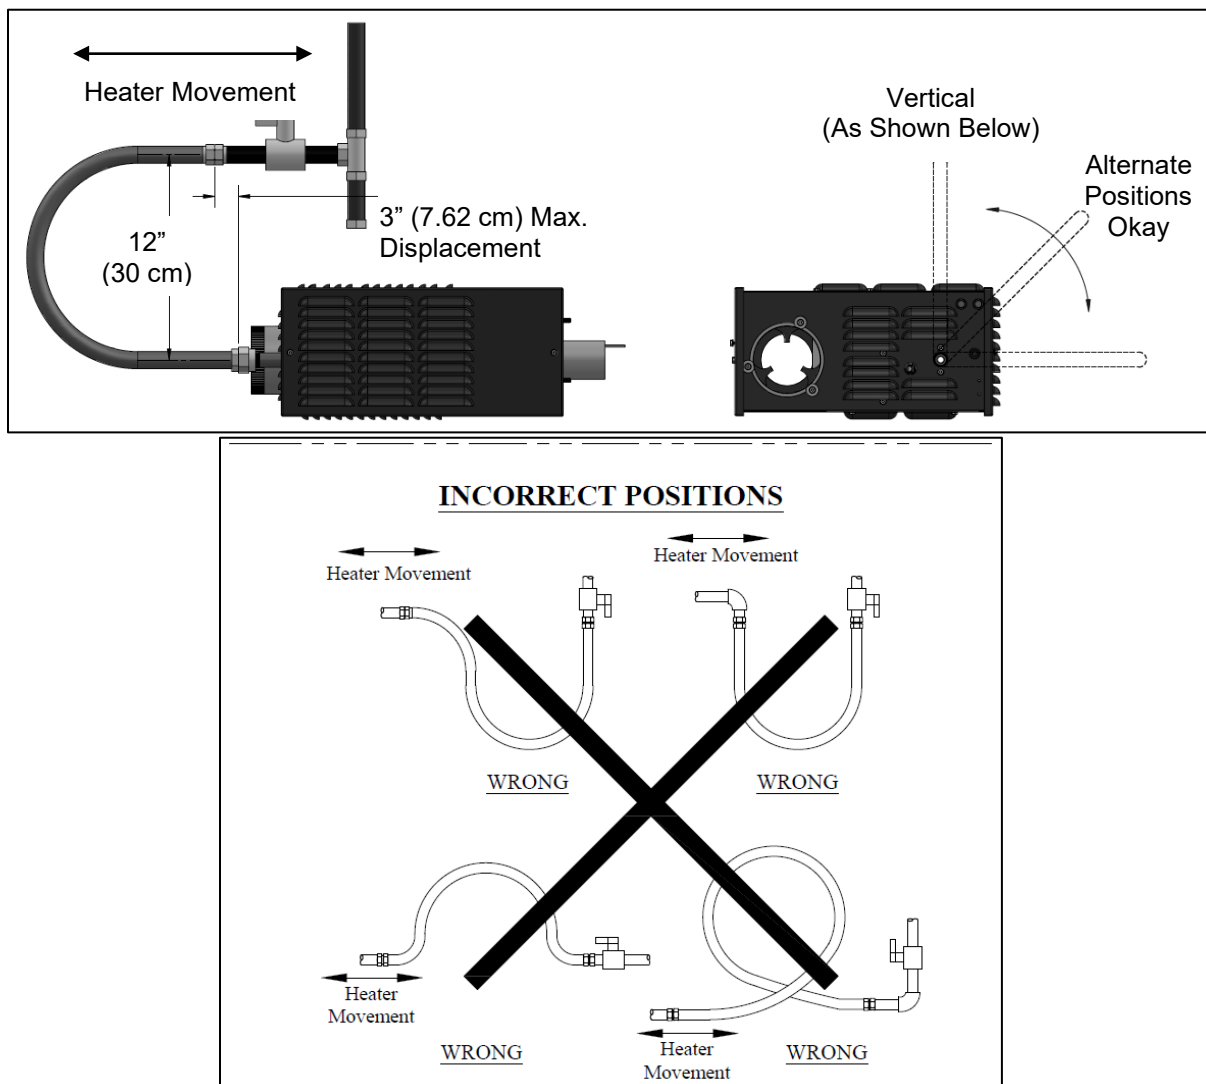

Figure 12: Flexible Gas Connection
- Flexible gas connectors of approved type must be installed as shown in Figure 12, in one plane, and without sharp bends, kinks or twists. A smooth loop of approximately 12" inches in diameter is best. Failure to install the gas connection in the approved manner will result in a hazardous and potentially deadly situation due to the movement of the heat exchanger and burner in the normal course of operation.